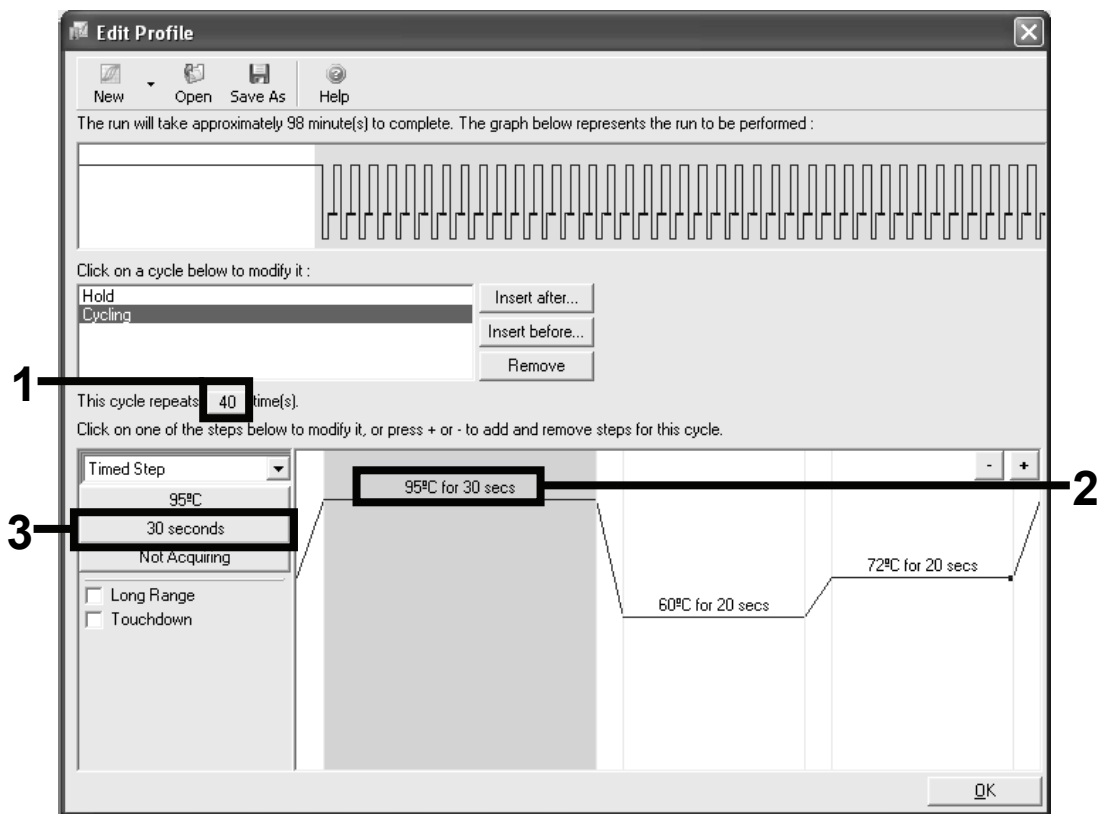

Figure 6. Cycling step at 95°C.
Amplification of the DNA	Figures 6, 7, 8, 9
15. Set the cycle number to 40 by clicking the number. Select “95°C for 20 seconds”. Set the time to “30 secs” (Figure 6).